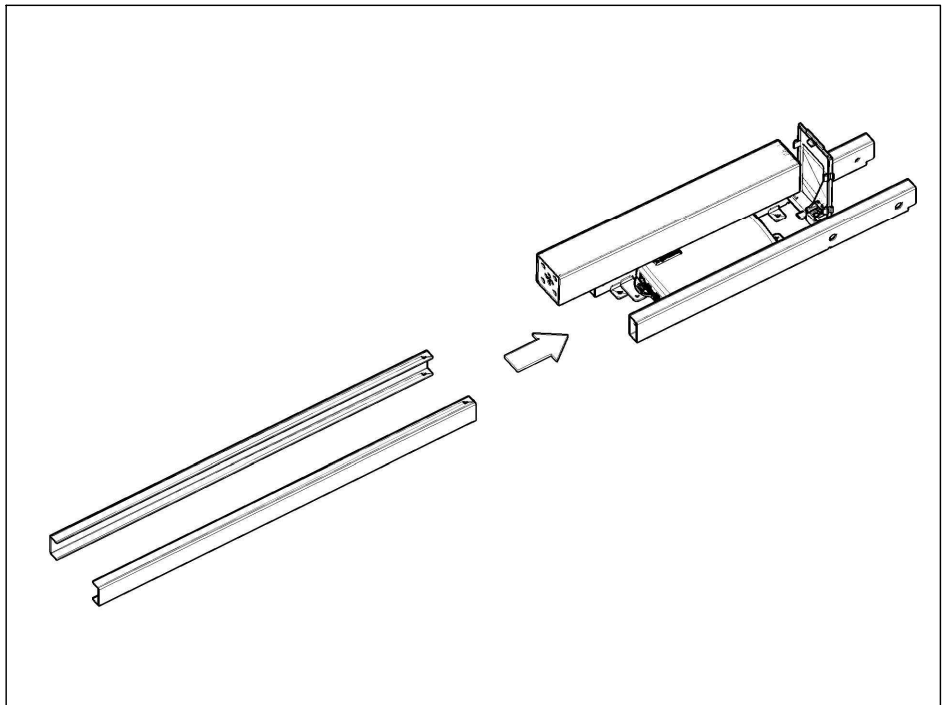

FIGURE 4
4. Insert the other channels provided by sliding them into the main frame (Figure 4) .